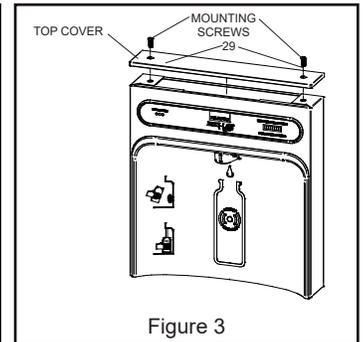

Figure 3
- Remove two (2) mounting screws with 5/32" Allen wrench holding top cover to Bottle Filler (see Fig 3). Remove top cover. Note: do not discard mounting screws; they will be needed to reinstall top cover.
13. Once Bottle Filler is installed on wall plate tabs, water line, wire(s) and power cord are installed properly, push top of Bottle Filler toward wall and line up top cover two (2) holes.
14. Reinstall Top Cover on Bottle Filler (See Fig. 3) with two mounting screws from step 1 above. Caution: do not over tighten screws.